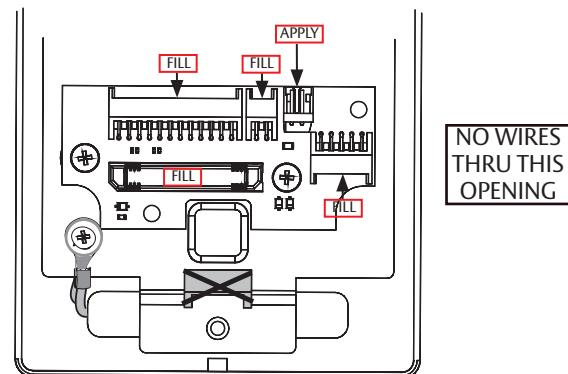

Figure 6-3A
2. Ensure all connector pins and contacts (Figure 6-3A) are covered. (Do not overfill or over-apply\*\*)
**IMPORTANT:** Do not run wires through bottom flange hole in plate - it will damage wires and controller connector. Route wires around flange (See Figures 6-3A - 6-3B).